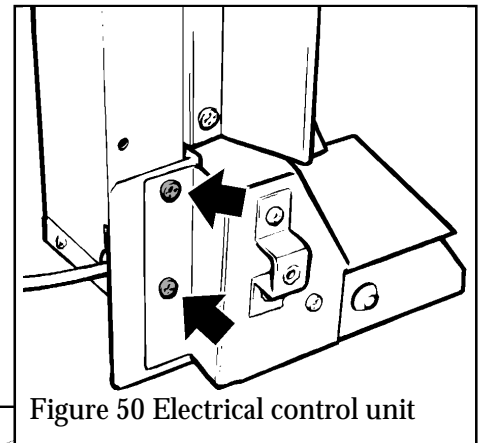

Figure 50 Electrical control unit
15.9.2 Detach the control unit from the convection box left side flange by removing two screws (see figure 50). Carefully pull the unit slightly forward.